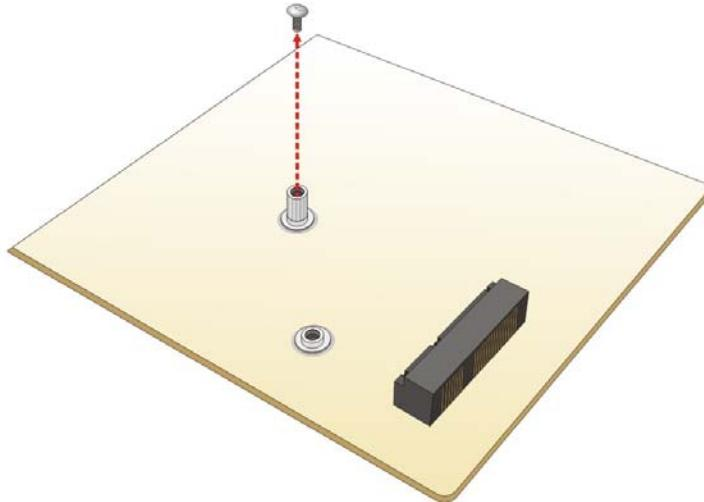

Figure 3-9: Removing the Retention Screw
Step 4: Remove the retention screw. Remove the retention screw as shown in **Figure 3-9**.